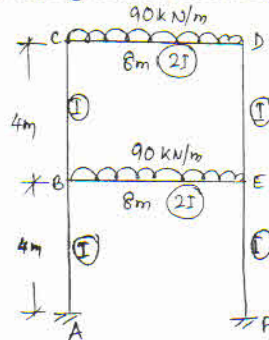

Fig Q5
- 5 Analyse the frame shown in Fig Q5 using Kani's method. Sketch BMD. (20 Marks)